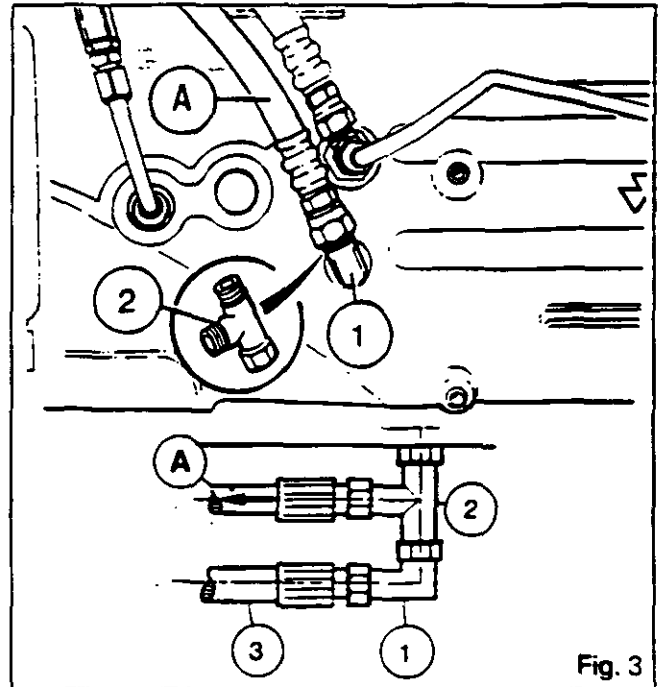

Fig. 3
10. Remove hose A ( Fig. 3 ) which comes from the 17 bar valve.
11. Remove the union (1) and install a union tee (2) in its place. Reinstall the elbow union (1).
12. Reinstall hose A on the union tee (2).
13. Fit the power take-off return hose (3) ( Fig. 3 and 4 ).